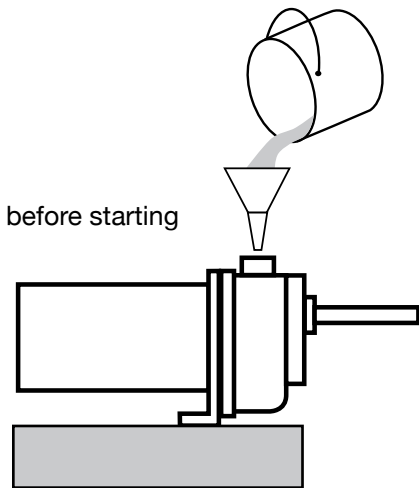

Figure 4
- Step 3. Fill pump and suction pipe with water (Fig. 4).